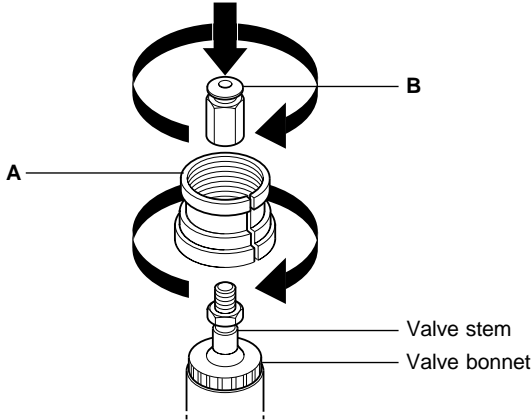

Fig. 9
Using the linkage kit EL3904 supplied. For KE and LE valves the split collar (A) should be screwed onto the valve bonnet and hand tightened as shown in Fig. 9.